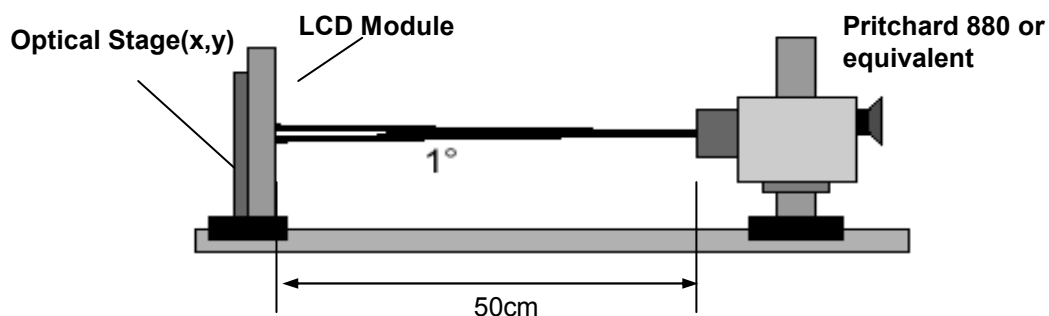

FIG. 1 Optical Characteristic Measurement Equipment and Method
Optical characteristics are determined after the unit has been 'ON' and stable in a dark environment at  $25\pm 2^{\circ}\text{C}$ . The values are specified at 50cm from the LCD surface at a viewing angle of  $\Phi$  and  $\theta$  equal to  $0^{\circ}$ . FIG. 1 shows additional information concerning the measurement equipment and method.
2. Surface luminance are determined after the unit has been 'ON' and 1 Hour after lighting the backlight in a dark environment at  $25 \pm 2^\circ\text{C}$ . Surface luminance is the luminance value at center 1-point across the LCD surface 50cm from the surface with all pixels displaying white. For more information see the FIG. 1.